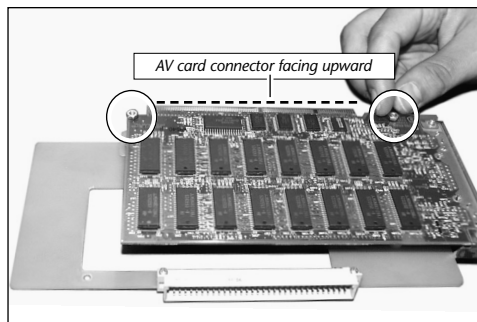

Figure 37: Secure AV card to adapter board with nuts
- Align the AV card directly over the video adapter board with the connector of the AV card facing upward (**Figure 37**). The holes on the AV card should align directly with the standoffs on the adapter board. Secure the AV card to the video adapter board with the two nuts (**Figure 37**) supplied with the adapter kit.